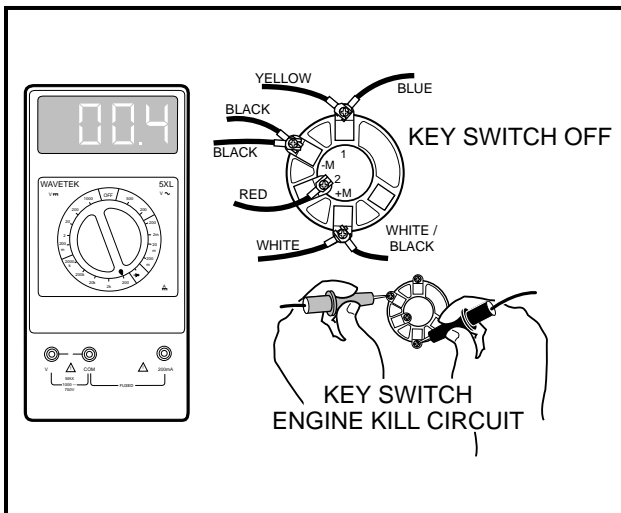

Figure 11-42 Test Key Switch – Engine Kill Circuit
4. Place the red (+) probe of the multimeter on the (+M) terminal of the key switch and the black (–) probe on the (–M) terminal. With the key switch turned OFF, the reading should be continuity. With the key switch turned ON, the reading should be **NO** continuity. If the either reading is incorrect, replace the key switch (**Figure 11-42, Page 11-32**).